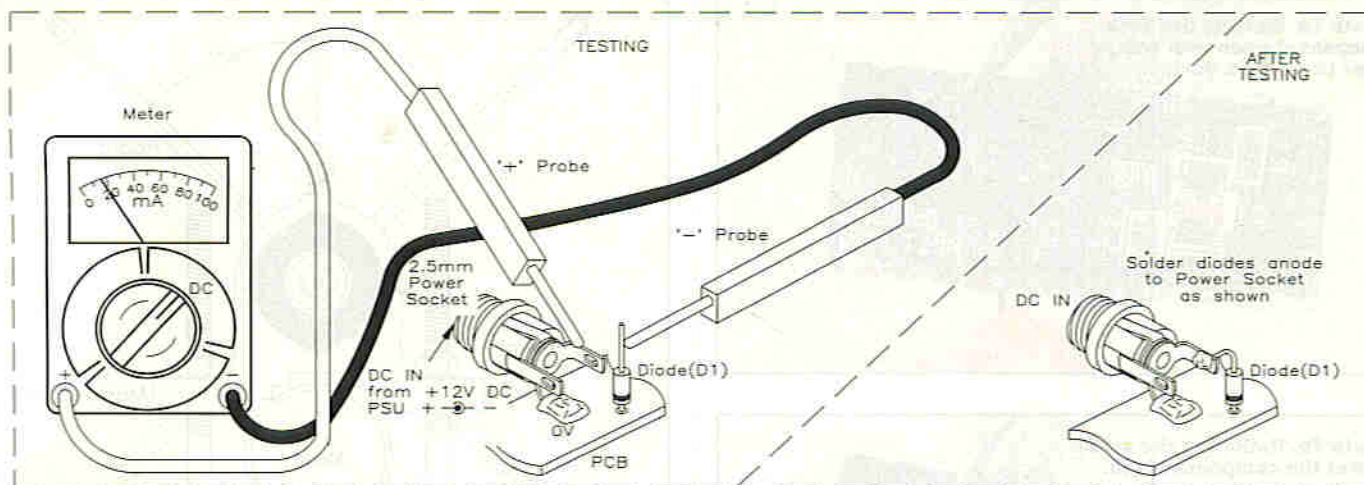

Figure 8. Testing of the PSU Interface.
Finally, fit the 1N4001 diode, D1, so its cathode (K), or banded end is soldered to the PCB – see Figure 8. DO NOT connect or solder its anode lead to the DC power input socket, SK3, until instructed to do so during the testing procedure.
Before you commence the testing procedure, you must first prepare two RF coax connecting cables. You will need a lead from the output of providing a regulated +12V DC at up to 300mA – see Figure 8. All the following readings are taken from the prototype using a digital multimeter, some of the readings you obtain may vary slightly depending upon the type of meter used.
When powered up you should observe a current reading of approximately 17mA. Power down the unit and remove the meter, then solder the anode lead of D1 to SK3 as shown in Figure 8. Set your multimeter to read DC Volts. Connect the negative test probe to the metal box and positive to the centre pin of the N socket SK2.
Using the N to N coax cable, connect it between SK1 on the aerial and SK2 on the PSU Interface. Set your multimeter to read DC current. Next, apply power (+12V DC) to SK3, connect your multimeter's test probes to the anode of D1 and the centre tag of SK3 – see inset of Figure 8. When powered up you should observe a current reading of approximately 17mA. Power down the unit and remove the meter, then solder the anode lead of D1 to SK3 as shown in Figure 8. Set your multimeter to read DC Volts. Connect the negative test probe to the metal box and positive to the centre pin of the N socket SK2.